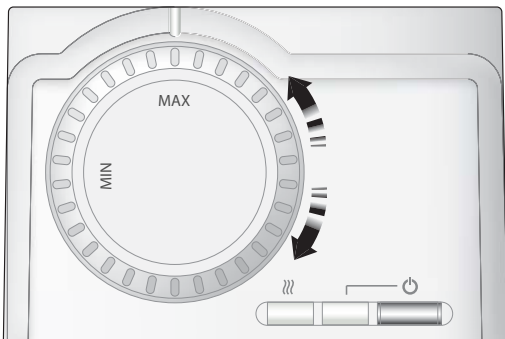

Fig. 3
**Setting Desired Temperature (see Fig. 3)**